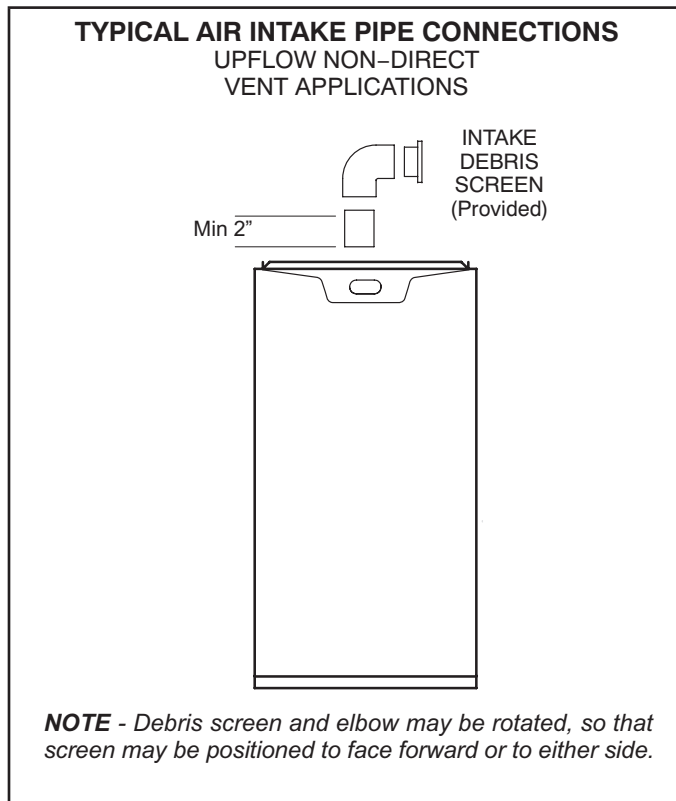
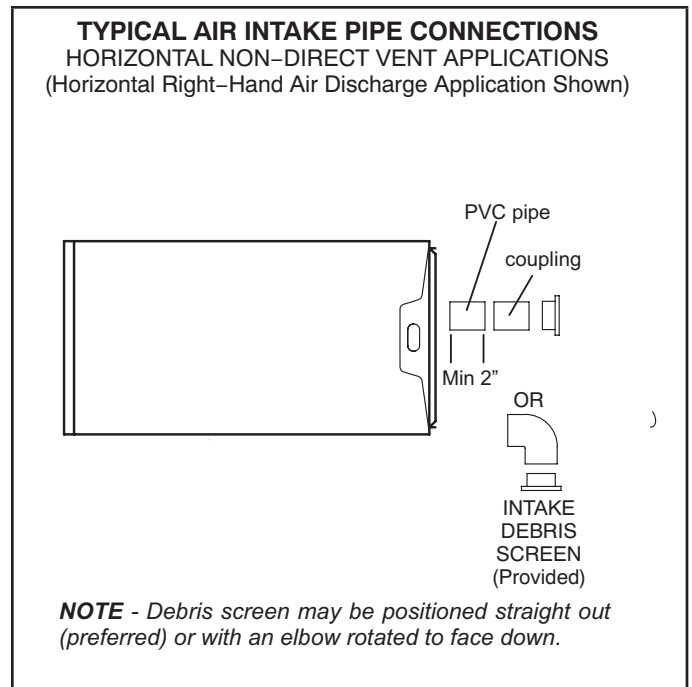

FIGURE 27
FIGURE 28
- 1 - Use field-provided materials and the factory-provided air intake screen to route the intake piping as shown in FIGURE 27 or FIGURE 28. Maintain a minimum clearance of 3" (76mm) around the air intake opening. The air intake opening (with the protective screen) should always be directed forward or to either side in the upflow position, and either straight out or downward in the horizontal position.